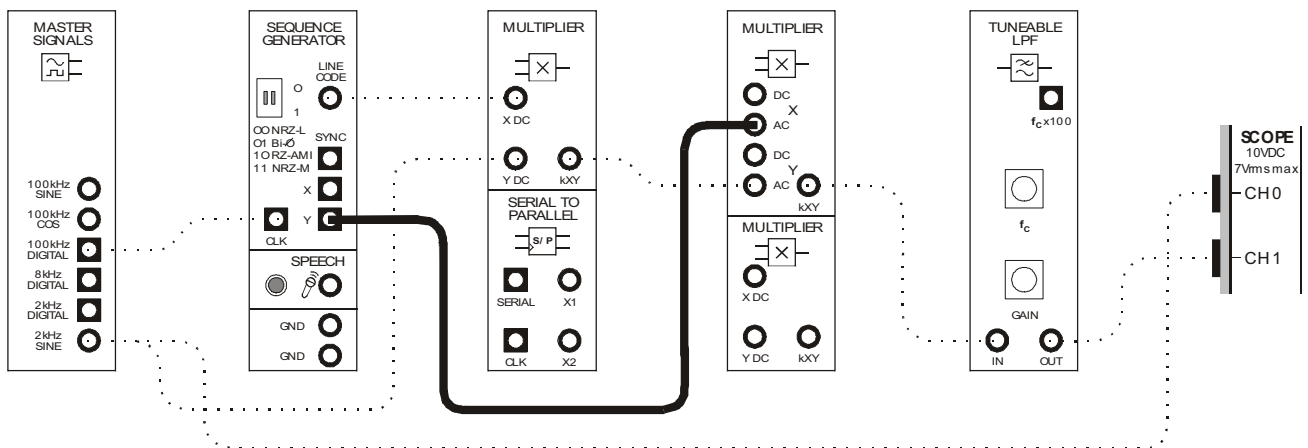

Figure 8
37. Modify the set-up as shown in Figure 8 below to make the demodulator's local carrier a different PN sequence to the transmitter's carrier.